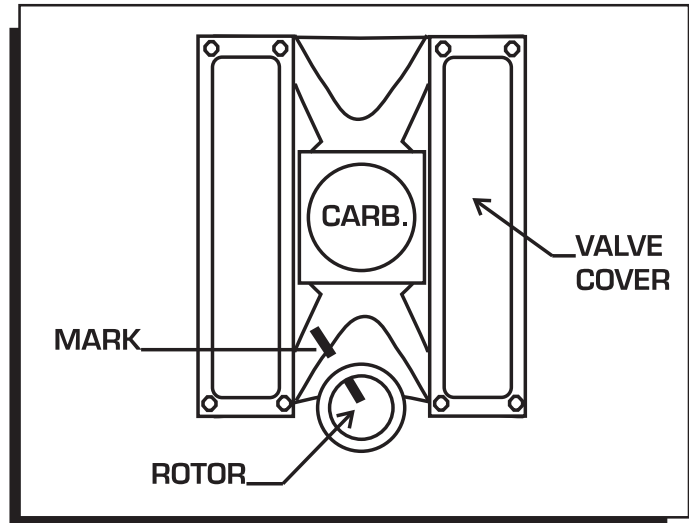

Figure 5 Marking the Rotor Location.
2. With the cap off, crank the engine until the rotor is aimed at a fixed point on the engine or firewall. Note this position by making a mark (Figure 5).